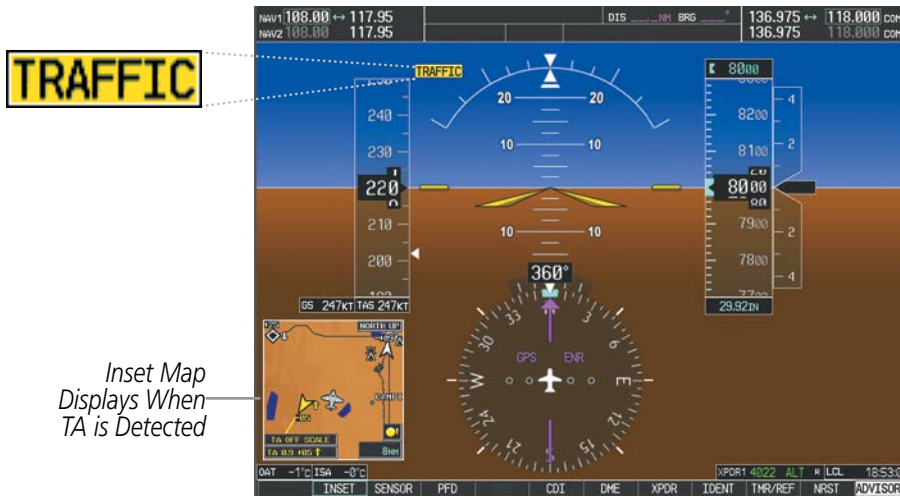

Figure 6-168 Traffic Annunciation (PFD)
- A 'TRAFFIC' Annunciation appears at the top right of the airspeed on the PFD, flashes for five seconds, and remains displayed until no TAs are detected in the area (Figure 6-168).